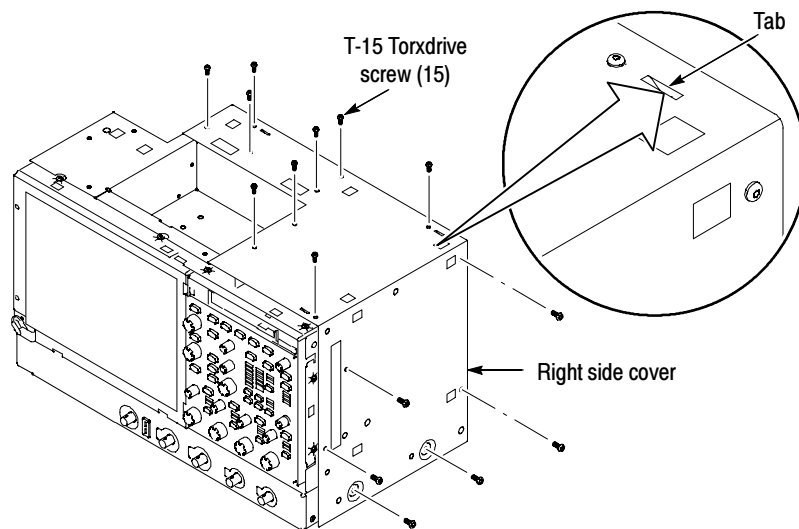

Figure 6: Right-side cover removal
1. *Remove the right-side cover:* See Figure 6.
3. Remove the 15 T-15 Torxdrive screws that secure the right-side cover to the top and right sides of the chassis. See Figure 6.